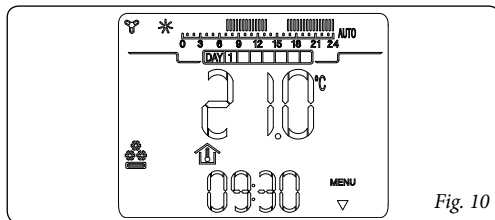

Fig. 10
- **Chiller control mode** (⊗). It is possible to enable CRONO 7 on control of a chiller for cooling environments (for enabling of this function, see par. 9.3). In "cooling" mode the CRONO 7 can function in automatic or manual mode. For the description of functioning see chapter 6. The display shows the day and current time, the room temperature and the hour bar with the daily programming of the cooling timer along with the relative symbols (fig. 10).